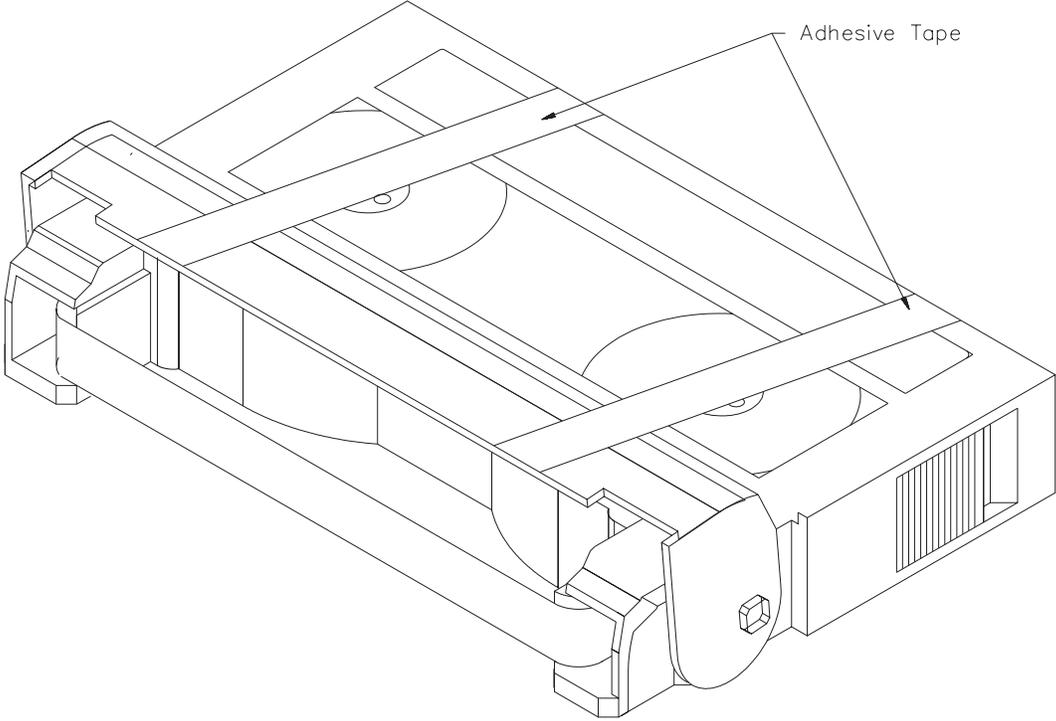

Figure 17-1
To prevent possible damage to the tape by the data cartridge door during this procedure, the door must be taped open. Taping the door open prevents the cartridge door from closing on the tape and damaging it before the tape is re-wound into the data cartridge. Figure 17-1 shows a data cartridge with the door taped open.
2. Position the two pieces of tape as shown in Figure 17-1, and press them gently to the data cartridge.